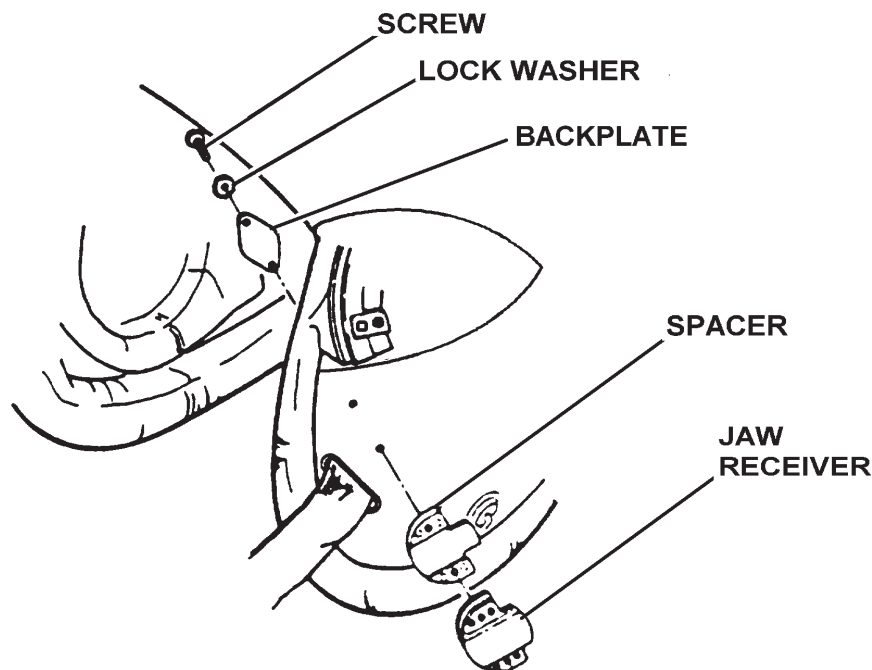

Figure 2-7. Bayonet Receiver Assembly
7. Hold the pile fastener fabric away from the helmet shell. Referring to Figure 2-7, insert the screws with the lock washers through the backplate and the inside of the helmet shell. Attach the spacers and receivers to the outside of the helmet shell. Ensure that the jaw receiver projections point to the rear of the helmet.